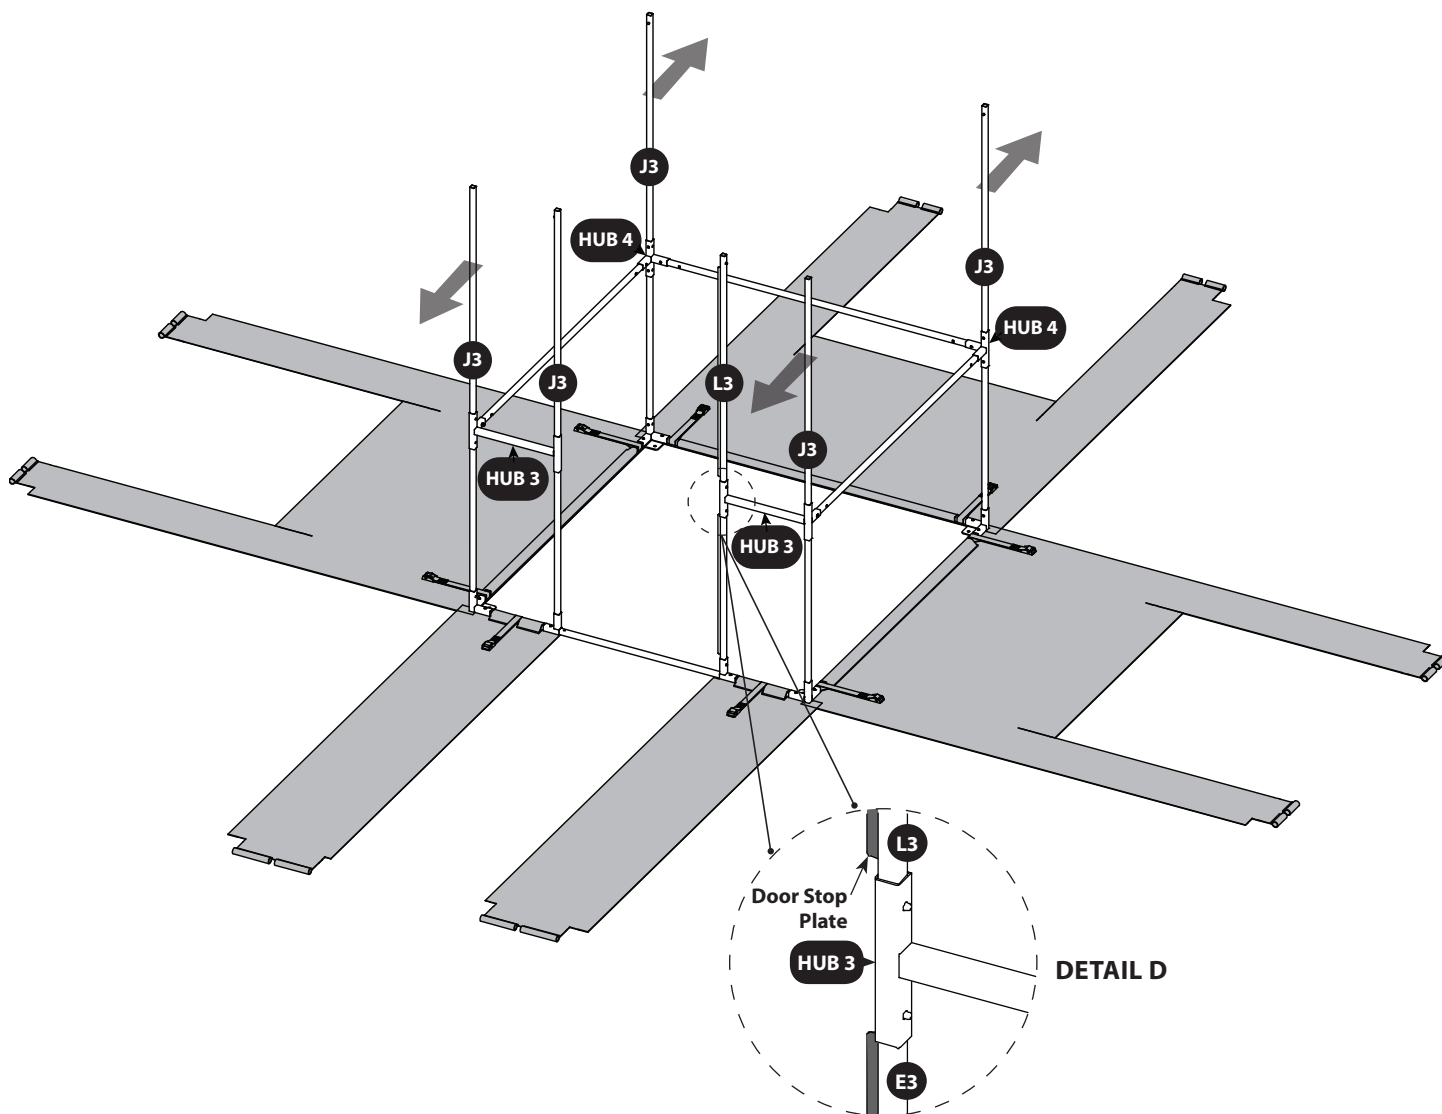

FIGURE 4
10. Locate five (J3) poles and one (L3) pole and slide into hubs (HUB 3) and (HUB 4) so that the snap buttons secure pieces together as shown in **FIGURE 4**. Be sure that the door stop plate on pole (L3) is facing interior of blind as shown in **DETAIL D**.